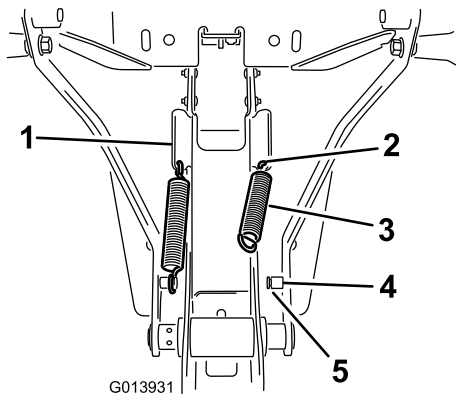

Figure 10
1. Install the spring in the hole in the lower end of the angled tab on the side of the frame assembly (Figure 10).
2. Hook one end of the spring into the hole and the other end onto the spring post (Figure 10).
3. Make sure that the spring end is seated properly in the groove in the post (Figure 10).